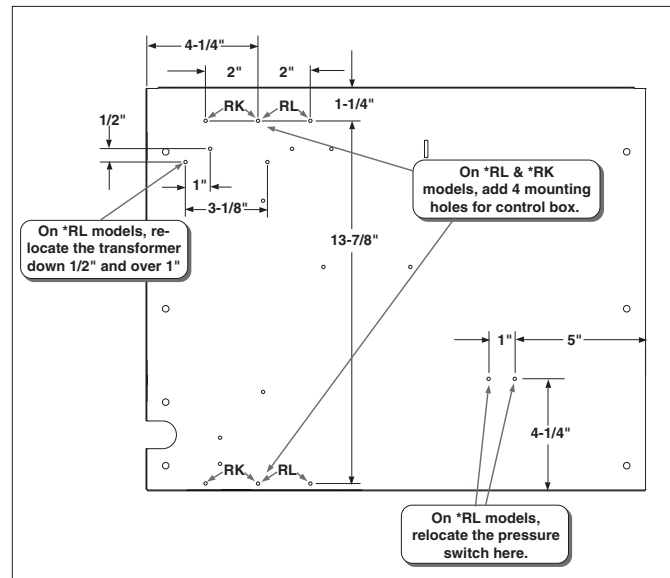

Figure 1. Downflow Blower Access Door
9. Mount the blower control box onto the blower access door. If the unit does not have holes provided, add 1/8" holes per Fig. 1.
9. Mount the blower control box onto the blower access door. If the unit does not have holes provided, add 1/8" holes per Fig. 1. Also, if mounting holes are not included in the furnace, the transformer and the pressure switch will have to be re-located:
- b. Drill new 1/8" mounting holes per Fig. 1.
- e. Drill new 1/8" mounting holes per Fig. 1.